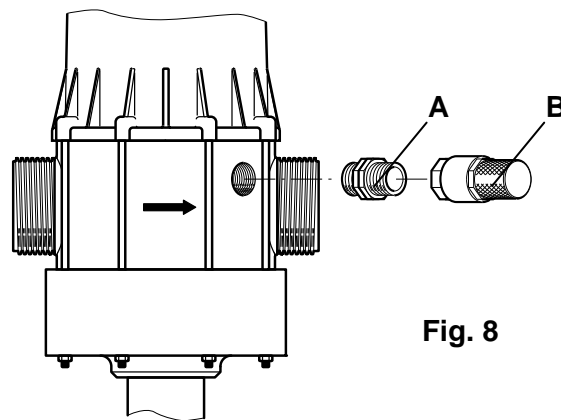

Fig. 8
- Wrap several turns of P.T.F.E. (teflon) tape round the threads of the adaptor nipple (**Fig. 8 - A**).
- Screw the nipple into the vacuum-breaker valve (**Fig. 8 - B**).
- Screw the assembly into the body (**Fig. 8**).